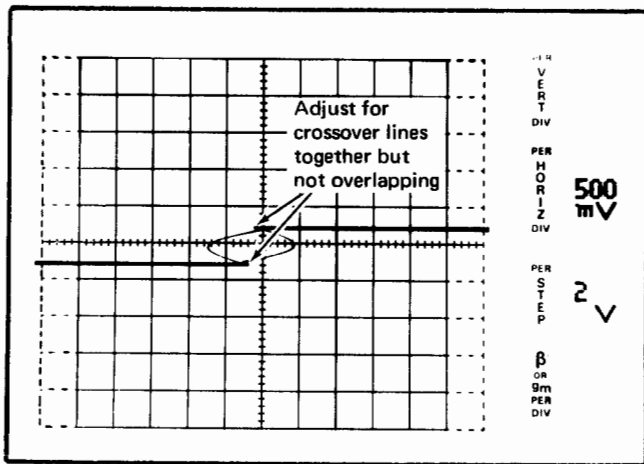

Fig. 5-8. Type 576 display of crossover lines for adjusting ZERO CROSS adjustment R8.
c. Check that the crossover lines are together at center (see Fig. 5-8). (Display may be inverted from that shown in Fig. 5-8.)